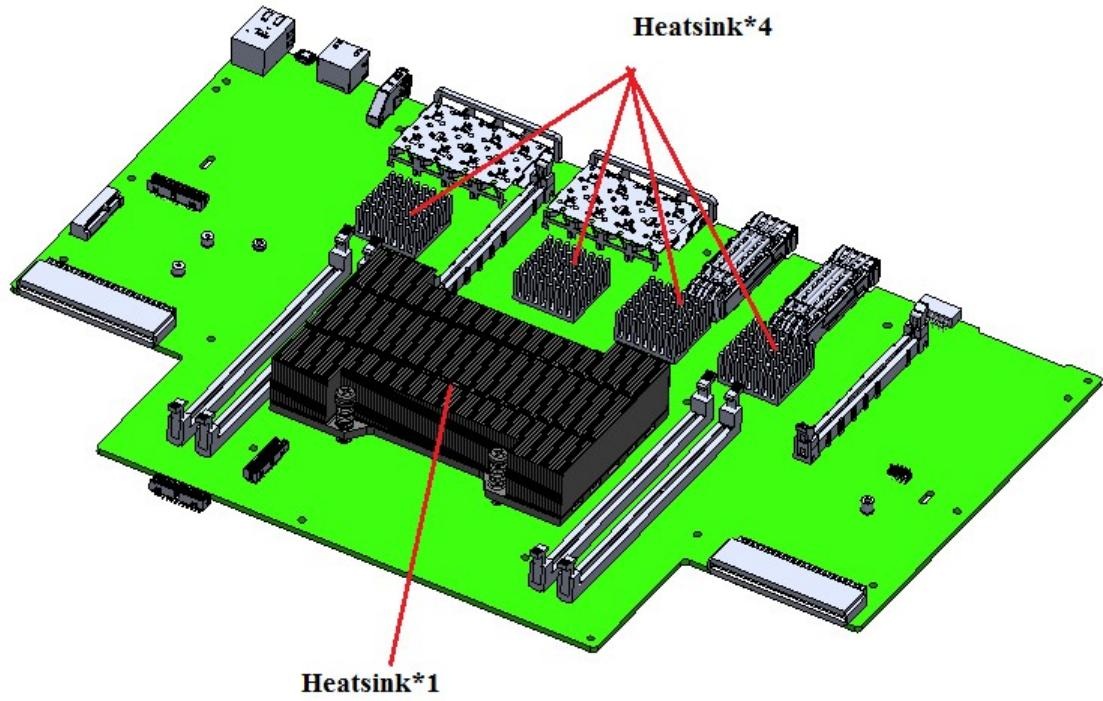

Figure 7: Battery location
9. Use Flat screw driver and P1 Phillips screw driver to remove the battery on main board. (see Figure 7).